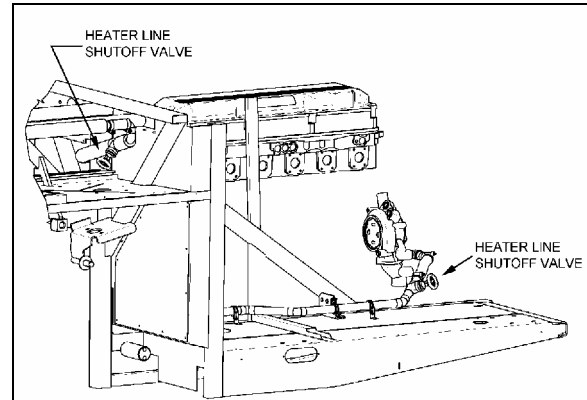

FIGURE 7: HEATER LINE SHUTOFF VALVES LOCATION
1. Stop engine and allow engine to cool. Close both heater line shutoff valves. One valve is located in the engine compartment under the radiator fan gearbox (Fig. 7). Another valve is located behind rear fender, above the L.H. rear wheelhousing near the optional coolant heater.